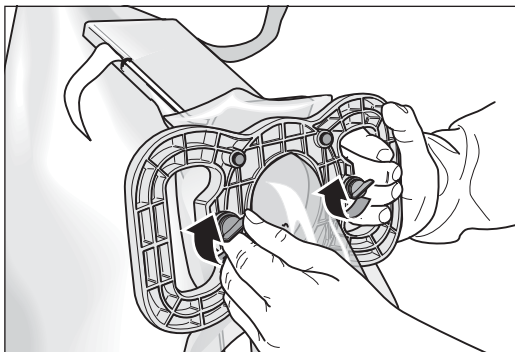

Fig. 27 Attach the emptying fixture to the dust bag.
- 12 Attach the emptying fixture to the dust bag by turning the two quick-release fasteners 90° clockwise (fig. 27).